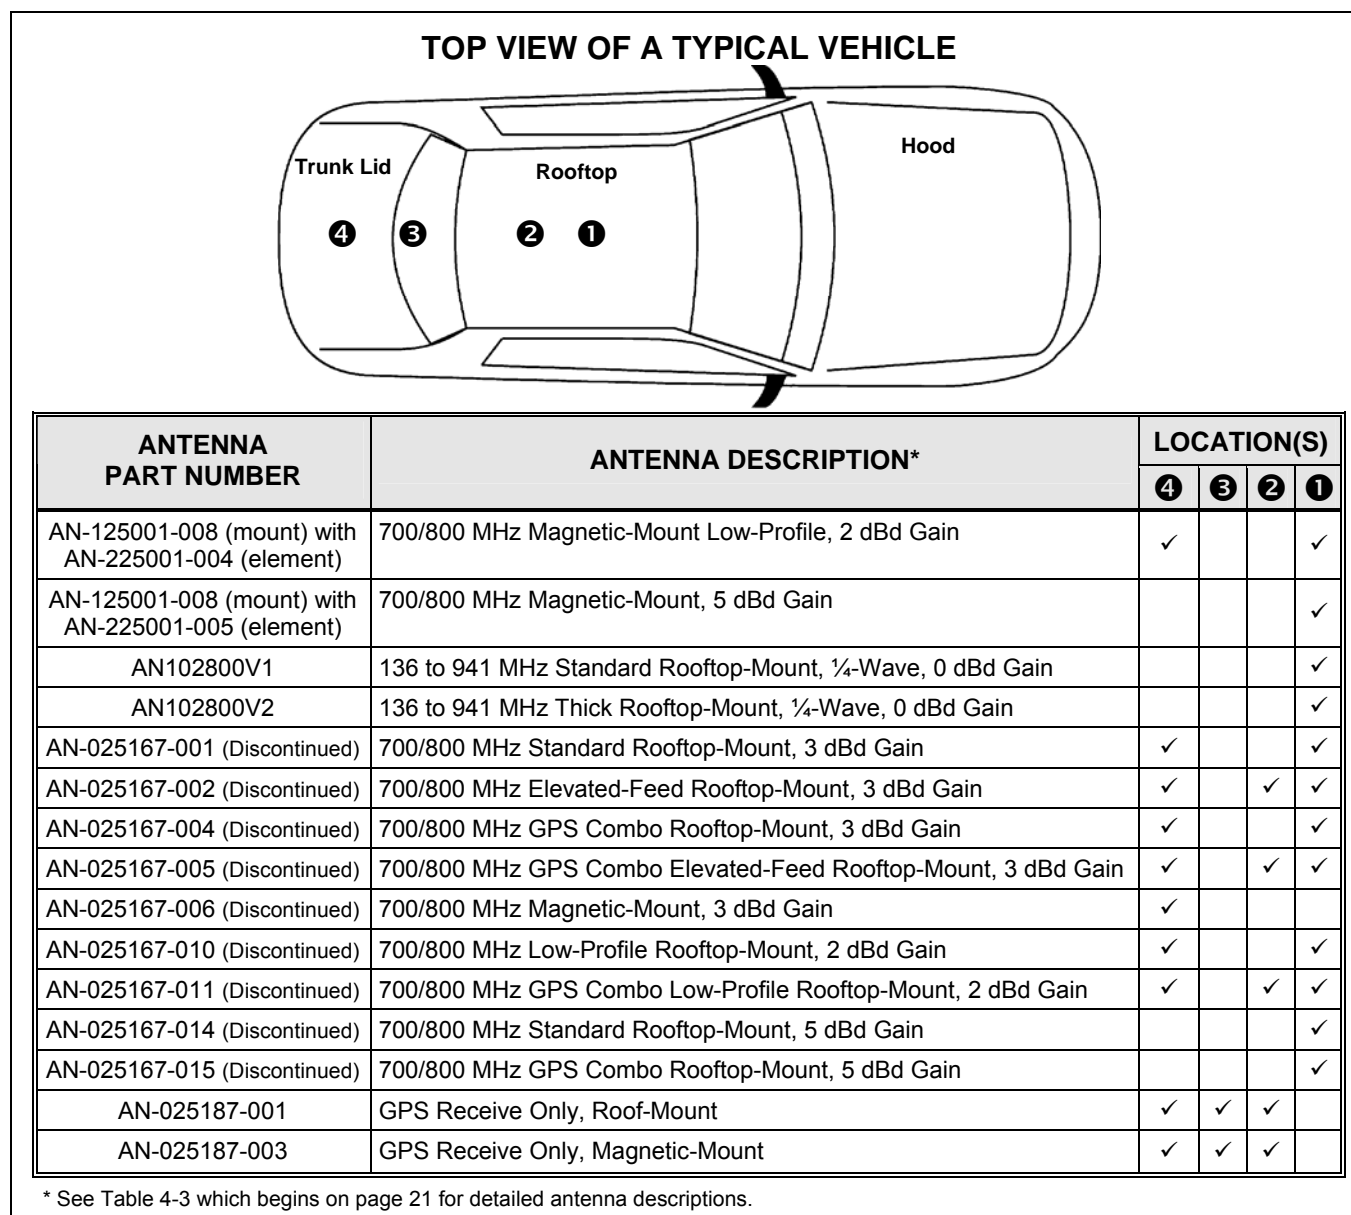

Figure 7-1: Recommended Antenna Mounting Locations with Antenna Part Numbers
Before starting the antenna installation, review all information presented in the **REGULATORY AND SAFETY INFORMATION** section of this manual (see page 6). A transmitting antenna must be installed in accordance with the guidelines presented in the **REGULATORY AND SAFETY INFORMATION** section. Use Table 1-1 on page 8 and Figure 7-1 below as a guide for determining the best possible mounting configuration/location in order to reduce human exposure to radio frequency (RF) electromagnetic energy during transmit mode.
Antennas can be mounted in one (1) of four (4) possible locations on the vehicle as described in the following subsections. Figure 7-1 shows the recommended locations and antenna part numbers for each location. Also, see Table 4-3 for additional information. Always follow manufacturer's instructions when mounting an antenna.
The center of the vehicle's roof is the best location for a rooftop-mount antenna (location ❶ in Figure 7-1). For optimal performance, the mounting area under the antenna must be flat with a minimum radius of six (6) inches of metal ground plane. It must be located directly in the center of the roof to minimize human exposure to RF electromagnetic energy. Other obstructions such as a light bar or another antenna may prevent the antenna from being mounted in the direct center of the roof. In this case, the antenna should be mounted a minimum of one foot away from and behind the obstruction but in the middle of the roof with respect to the left and right sides of the vehicle (location ❷ in Figure 7-1).
Certain vehicles do not allow for the antenna to be placed in the center or center-rear of the roof. In this case, the next best location for the antenna is in the direct center of the trunk lid (location ❹ in Figure 7-1). In this case, an elevated-feed-point antenna is recommended. Although this type of antenna does not require a metal ground plane, it must be located directly in the center of the trunk lid to minimize human exposure to RF electromagnetic energy.
If the mobile radio installation does not use a GPS combination-type antenna, a stand-alone GPS receive antenna must be separately located and mounted, to support the radio's internal GPS receiver. The vehicle's rear deck lid (location ❸ in Figure 7-1) is the recommended mounting location for this case. This locates the GPS antenna inside the vehicle.
A combination ("combo") antenna kit includes a GPS antenna built into the base of the mobile antenna. Refer to Table 4-3 (page 21) and/or Figure 7-1 (page 35) for available combo antennas.